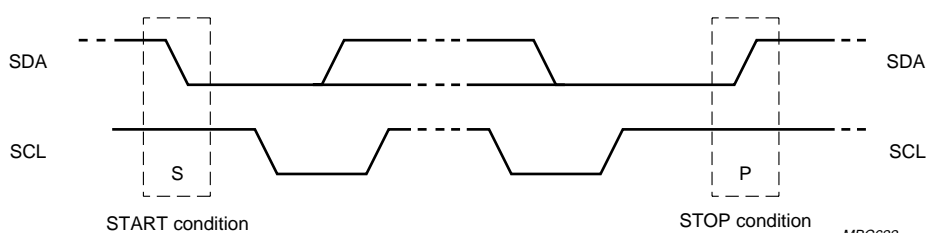

Fig.13 Definition of start and stop conditions.
8.2 Start and stop conditions (see Fig.13)